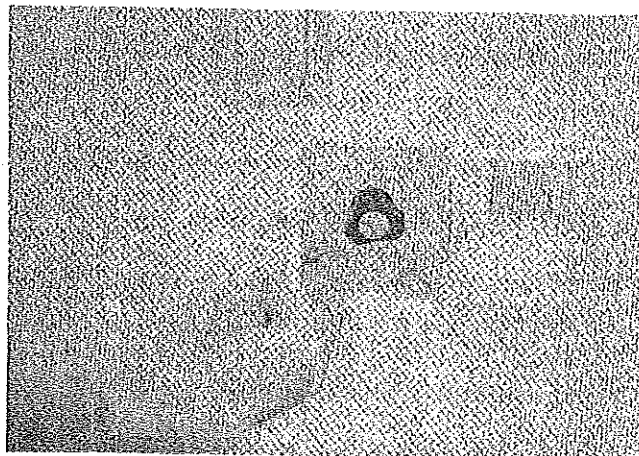

FIGURE 6
2. Lift the toggle switch and hold in position to raise the top assembly. See Figure 6. Allow the top assembly to fully extend or until tent fabric becomes taut. See Figure 7. Release the toggle switch.